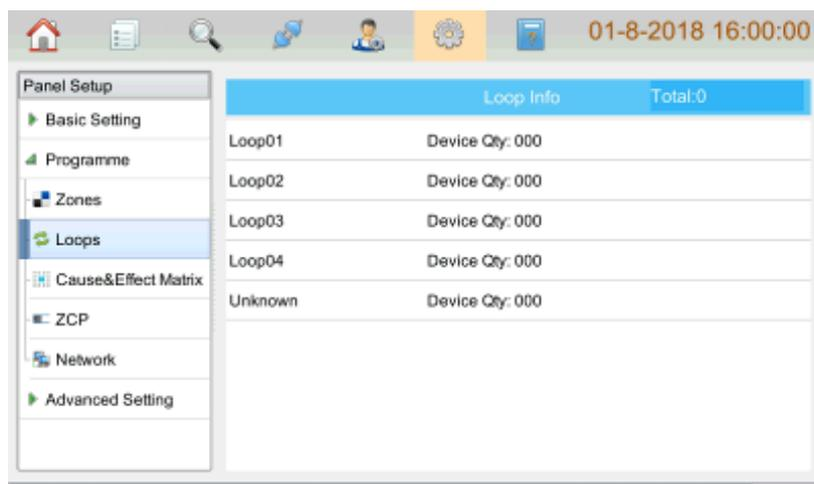

Fig 4.17
- Loops: clicking **Loops** enters the screen for setting loop devices. The right screen shows all the loops of the FACP, quantity of devices of each loop, as shown in the figure below Fig 4.17.